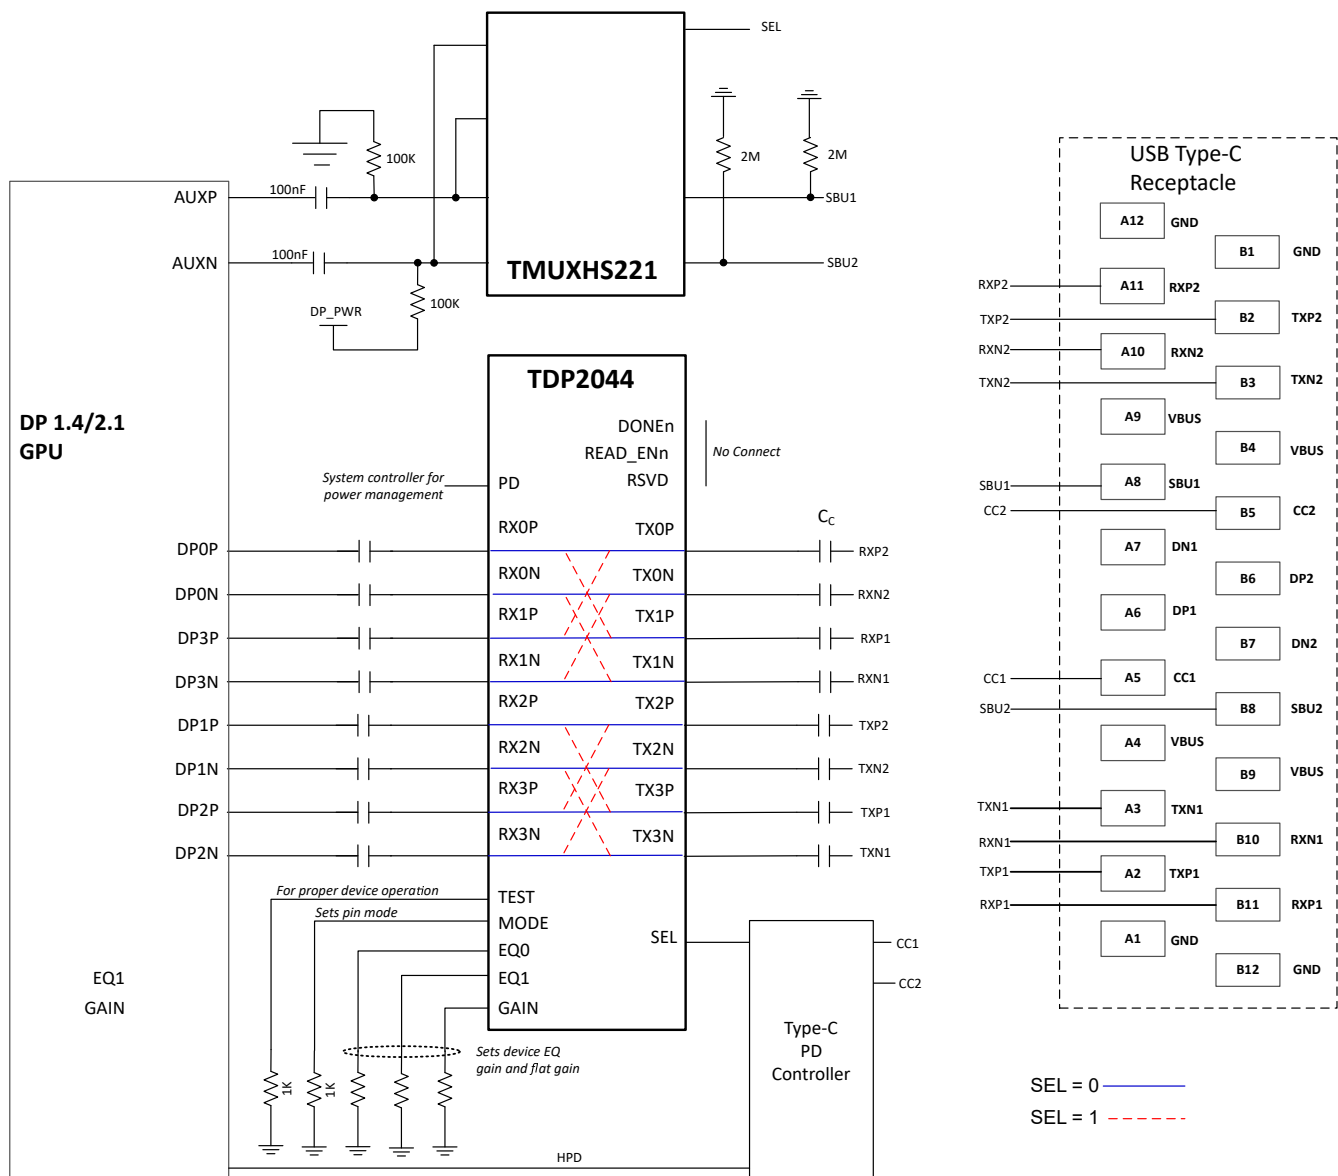

Figure 7-2. Simplified Schematic for USB-C Alternate Mode Source Application
The TDP2044 provides signal conditioning for four DP mainlink channels along with 4:4 cross-point (channel re-orientation) function. The device is a linear redriver which is agnostic to DP link training. The DP link training negotiation between a display source and sink stays effective through the device. The redriver becomes part of the electrical channel along with passive traces, cables, and other channel elements, resulting in optimum source and sink parameters for best electrical link. Figure 7-2 shows a simplified schematic for DisplayPort application using TDP2044 to implement USB Type-C DP alternate mode in a source application. A USB power delivery (PD) device control the cross-point mux polarity signal SEL according to USB Type-C cable plug position.
DisplayPort side-band signals AUXp,n and HPD are bypassed. An external mux such as TMUXHS221 can provide flipping functions for SBU signals as illustrated in Figure 7-2. An inverted HPD signal can be used to control the device standby operation using the PD pin; however appropriate filtering out of HPD interrupt signals must be provisioned.